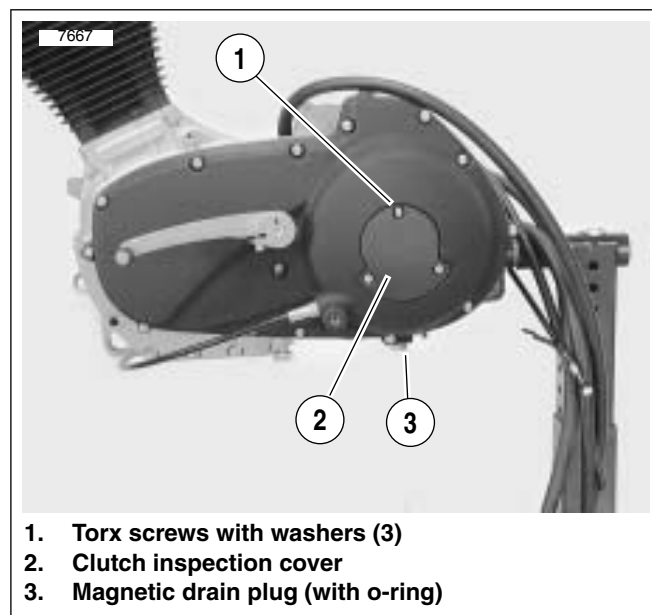

Figure 1-15. Primary Cover
4. See Figure 1-15. Remove three TORX screws with washers (1) from clutch inspection cover (2). Remove clutch inspection cover from primary cover.
6. See Figure 1-15. Install clutch inspection cover using three TORX screws with washers. Tighten in a crosswise pattern to 84-108 **in-lbs** (9.5-12.2 Nm).
2. See Figure 1-15. Position a suitable container under drain plug (3). Remove magnetic drain plug with O-ring and drain fluid.
3. Wipe any foreign material from the magnetic drain plug (3). Inspect O-ring for deterioration and replace as required. Reinstall drain plug with O-ring. Tighten drain plug to 14-30 ft-lbs (19.0-54 Nm).
9. See Figure 1-15. Install clutch inspection cover using three TORX screws with washers. Tighten in a crosswise pattern to 84-108 **in-lbs** (9.5-12.2 Nm).